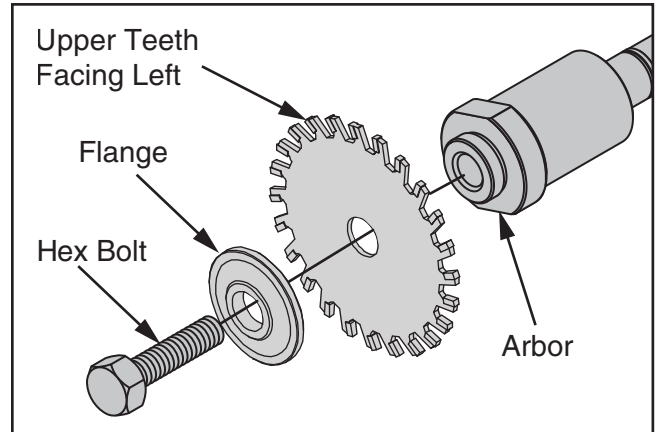

Figure 89. Scoring blade order of assembly.
- Install scoring blade set, flange, and arbor hex bolt in reverse order from removal, making sure upper blade teeth face LEFT (see **Figure 89**), then tighten arbor hex bolt.